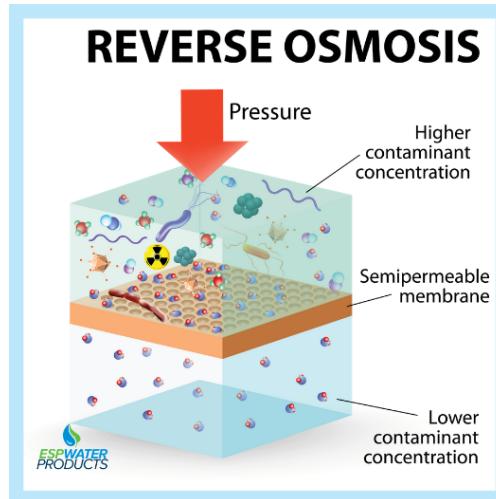

Figure 4: Illustration of a semi-permeable membrane in a RO system from ESP Water Products. [4]
A Reverse Osmosis (RO) system is one of the most widely known and used water conditioning systems. In a RO system, the raw incoming water is passed through a semipermeable membrane. The membrane is selectively permeable meaning it only allows water to pass through leaving the contaminants on the other side of the membrane.[3] Due to the selective nature of the membrane, it can filter out almost any, if not all, contaminants present in the feed water. This differs from an ion exchange softener which is specialized at exchanging ions, specifically cations.[3] Refer to Figure 4, for an illustration of this process. While there are different types of RO systems present, the central tenet revolves around the reverse osmosis membrane with variations arising due to additional filters being present in the system. The pros and cons of a RO system are in Table 5.